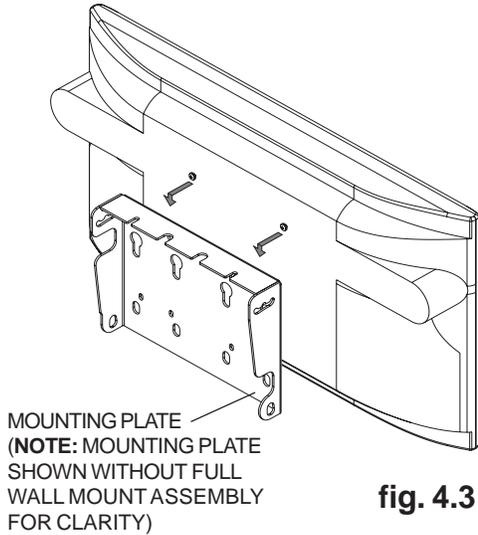
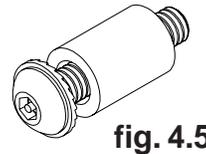

fig. 4.3
fig. 4.5
Thread two M4 x 12 mm screws (BB), leaving .25" exposed thread, into top holes on back of screen. Hook screen onto mounting plate, and attach using bottom two M4 x 12 mm screws as shown in figures 4.3 and 4.4. (page 7) Tighten all four screws.
Thread two M4 x 12 mm screws (BB), leaving .25" exposed thread, into top holes on back of screen. Hook screen onto mounting plate, and attach using two bottom M4 x 12 mm screws as shown in figures 4.3 and 4.4. Tighten all four screws.
Thread two retaining spacers (L) onto two M4 x 20 mm screws (CC), leaving .25" exposed thread as shown in figure 4.5. Thread M4 x 20 mm screws with retaining spacers into top holes on back of screen. Hook screen onto mounting plate, and attach using bottom two M4 x 20 mm screws and retaining spacers as shown in figures 4.3 and 4.4. Tighten all four screws.